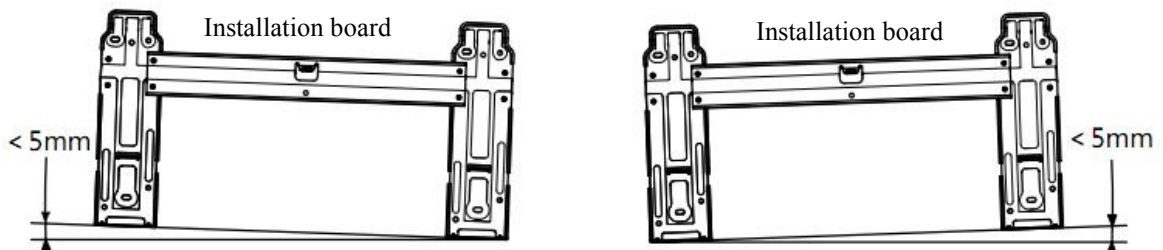

Fig 4
- Dismantle the metal installation board of the indoor unit. Adjust the installation board to horizontal position. The height difference between the left and right sides of the installation board should be less than 5mm. (Fig 4)